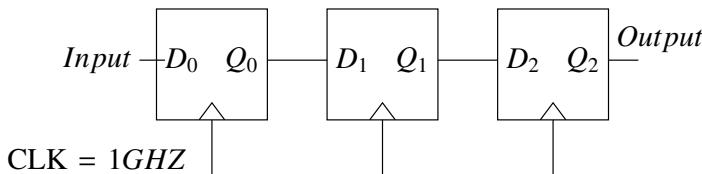

Fig. 5.8
8. The synchronous sequential circuit shown below in Fig. 5.8 works at a clock frequency of  $1\text{GHz}$ . The throughput, in  $\text{Mbits/s}$ , and the latency, in  $\text{ns}$ , respectively, are